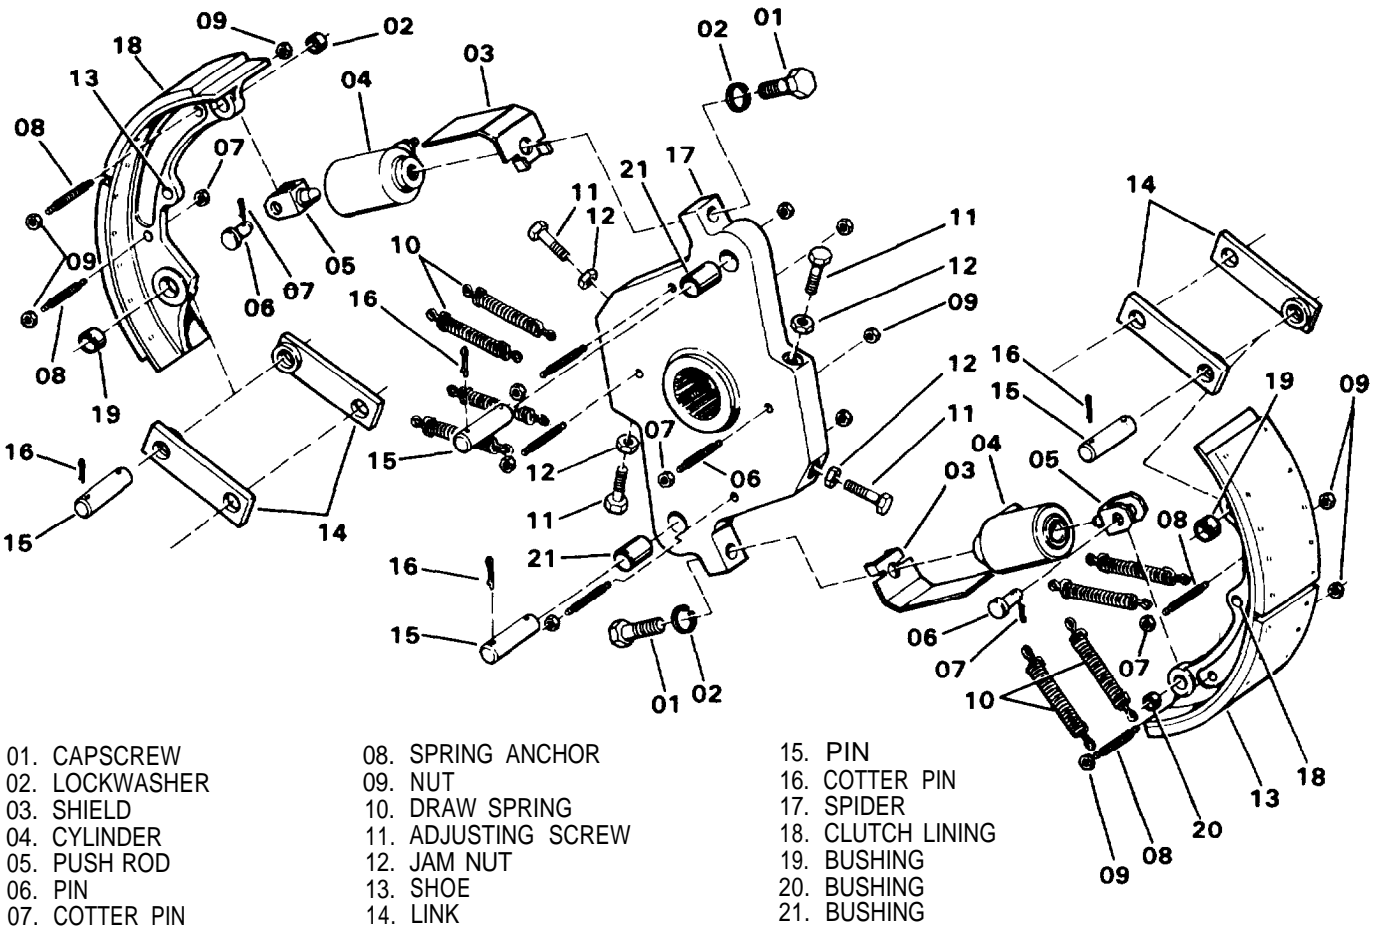

Figure 6F-1. Swing Clutch (2100J1346-1)
**REMOVAL AND DISASSEMBLY.** The clutch assembly shown in Figure 6F-1 is the left swing clutch. The right swing
clutch is the same as the left, except that it is rotated 180°. To remove and disassemble the swing clutch, proceed as follows (see Figure 6F-1):
5. Loosen jam nuts (12). Back off adjusting screws (11) and remove return spring (10).
6. Disconnect shoes (13) from push rods (06) and links (14).
**INSPECTION AND REPAIR.** Prior to re-installing the clutch assembly on the shaft, inspect the following items (see Figure 6F-1 on page 6F-1):
1. Replace return spring (10).
2. Remove bushing (21) from spider (24) and replace. Also remove bushings (19) and (20) and replace them.
3. If cylinder (04) leaks or has been performing erratically, remove it from the spider and overhaul or replace it. See Subsection 5D.
4. Check clutch lining (18) for excessive wear. The linings should be replaced when wear has reduced the thickness of the lining to within 1/16 inch of the rivets. Check the clutch shoes for cracks or distortion.